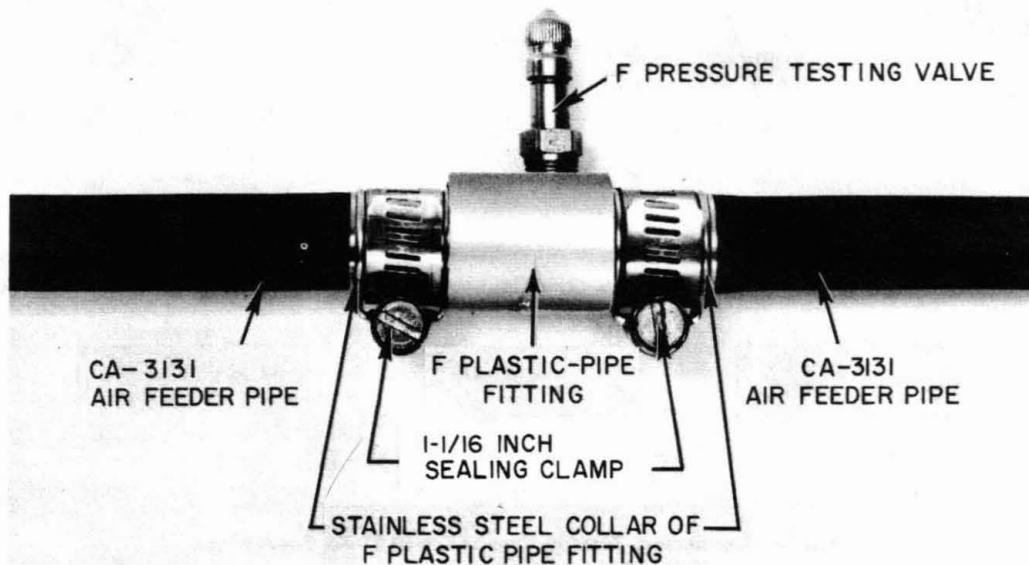

Fig. 4—Typical Arrangement for Pipe Connection Where Tubing Connection Is Not Required
- (1) Rough cut the CA-3131 pipe with an R2761 skinning knife, leaving the pipe about 1/2 inch longer than required.
- (2) Insert the C pipe shaper, pushing it fully into the pipe. Now, with the aid of the shaper, finish cut the pipe, using a commercial tubing cutter.
- (3) Remove the C pipe shaper from the pipe, and slip the stainless steel collar and a 1-1/16 inch sealing clamp onto the pipe.
- (4) Insert the O-ring equipped end of the fitting fully into the pipe so that the end of the pipe is imbedded in the sealing compound of the fitting.
- (5) Slip the stainless steel collar of the fitting against the body of the fitting. Complete the connection by placing the 1-1/16 inch sealing clamp on the collar between the two ridges and tightening the clamp securely; the screw of the sealing clamp should be **away** from the collar opening.
- (6) The **F plastic pipe fitting** is used for making straight-through pipe connections as follows:
- (a) At manholes where plastic tubing connections to the pipe will not be required (Fig. 4), coat the threads of an F pressure testing valve and install it into the port of the fitting.